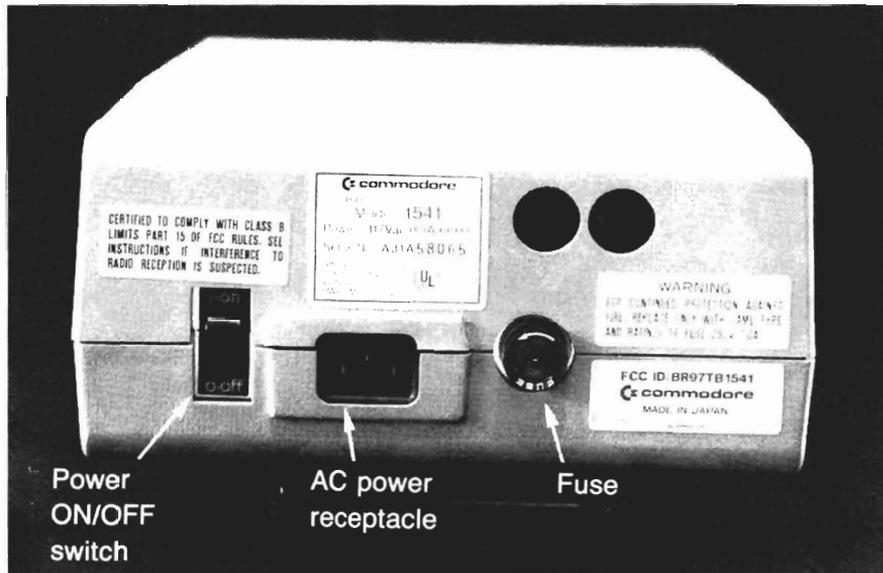

Fig. 6-11. Disk drive fuse location.
- If the power checks out but the drive's indicator still does not light, there is most likely a problem with the drive's power supply. Check the power supply's fuse located on the rear of the disk drive (Fig. 6-11). Pull the fuse out by inserting the end of a flatblade screwdriver into the fuse slot and turning it counterclockwise until the fuse holder is disengaged. Examine the fuse. If it is blown, replace it with another of the same rating. If the fuse is still good, take the drive in for servicing.